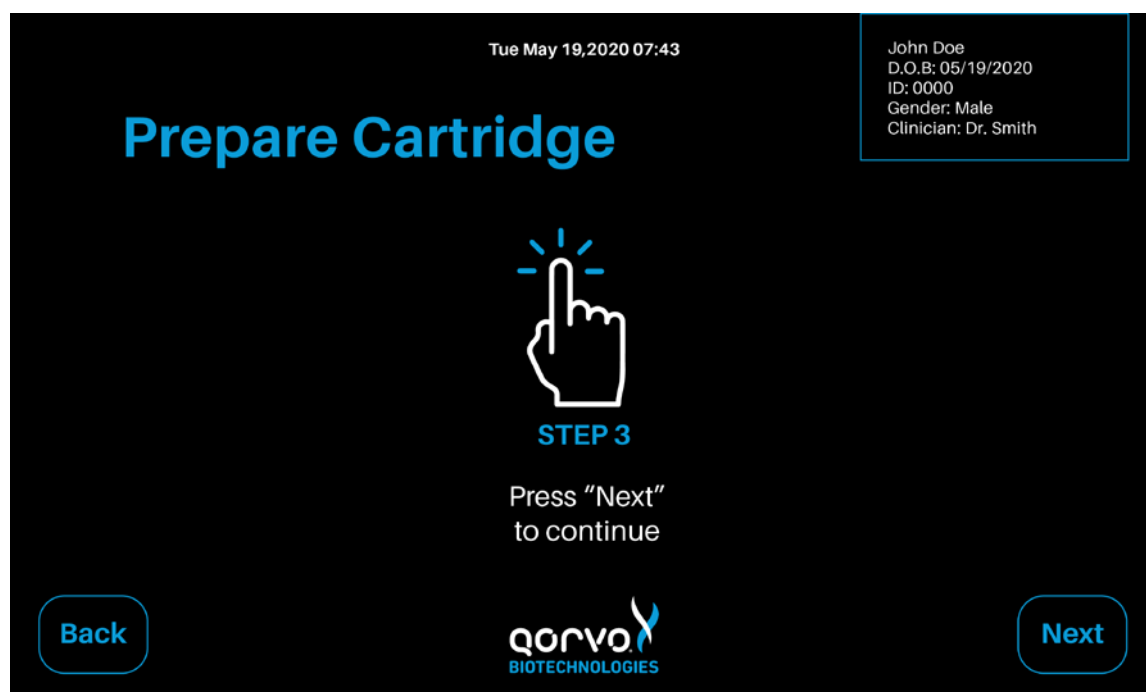

Figure 25
7. Ensure all sample has been absorbed into the sample port and the sample has reached the “fill” line. After the cartridge has been prepared, press “Next” Figure 25.